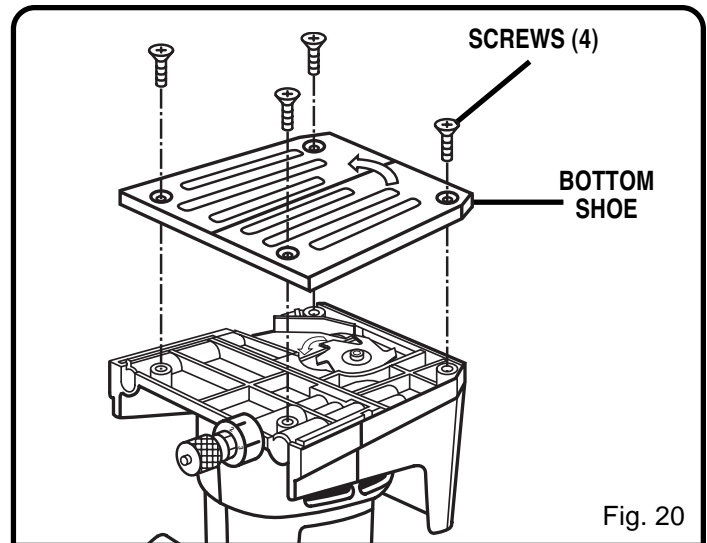

Fig. 20
See Figures 20– 22.
- Place your biscuit joiner upside down on a workbench and remove the bottom shoe screws (4) and bottom shoe. See Figure 20.
**NOTE:** Blade teeth point toward the right of your biscuit joiner when held in normal operating position. An arrow on the bottom shoe also indicates direction of blade rotation. See Figure 20.
- Replace screws (4) and tighten securely.